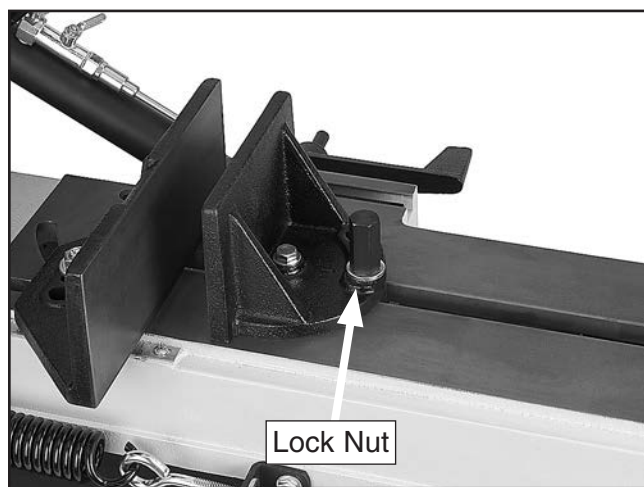

Figure 29. Vise jaw lock nut.
4. Loosen lock nut in **Figure 29** on opposite jaw so jaw can float, and match angle of workpiece.